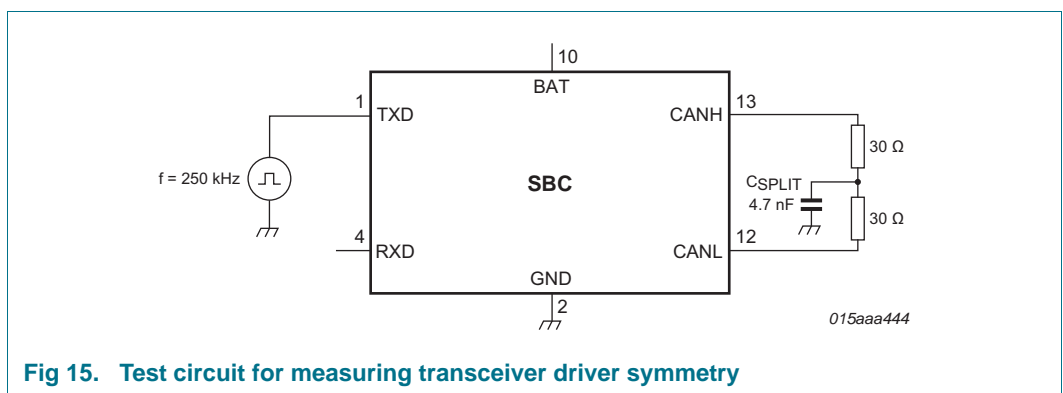

Fig 15. Test circuit for measuring transceiver driver symmetry
- [2] The test circuit used to measure the bus output voltage symmetry (which includes  $C_{SPLIT}$ ) is shown in Figure 15.